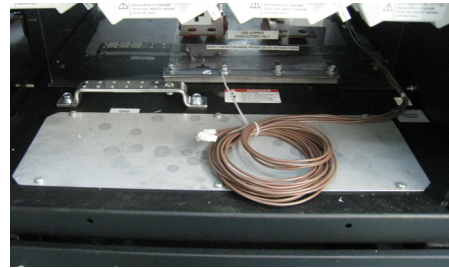

Figure 11-7 - 431B Factory Supplied Shunt Trip Wiring
1. Run the pre-wired shunt trip cable shown in Figure 11.7 from the 431B through the 431B/UPS cable access port located at the bottom left side of the 431B, to the UPS 24VDC power supply on the lower left side of the UPS.